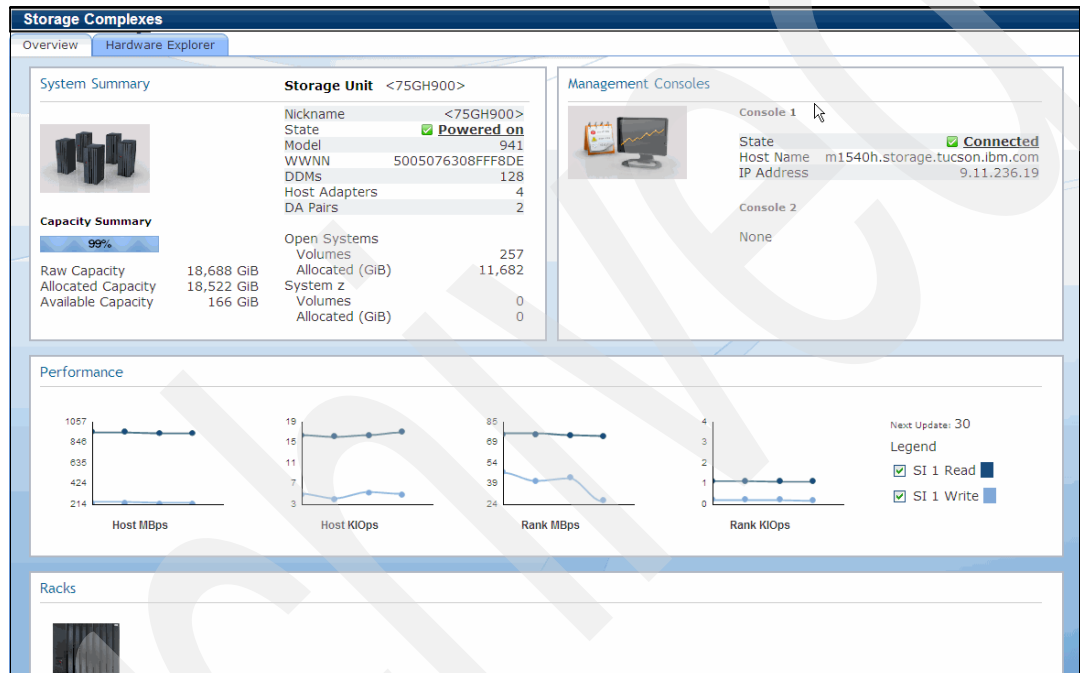

Figure 13-76 System Summary overview
2. The new Storage Complex window provides general DS8700 system information. It is divided into four sections (see Figure 13-76):